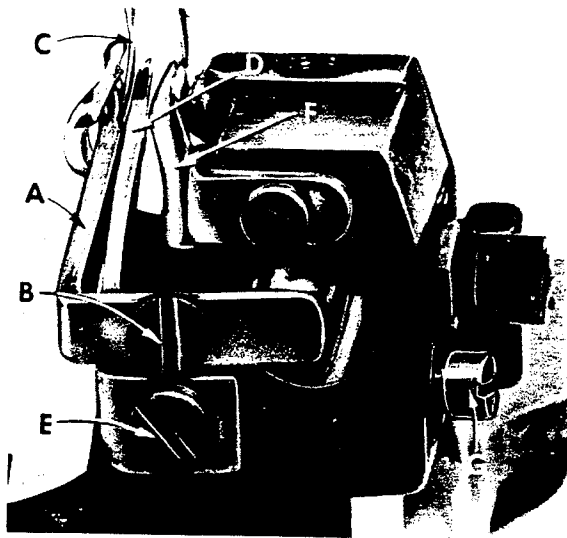

Fig. 5
Set the rear needle guard (A, Fig. 5) as high as possible without interfering with either the lower spreader or movement of the lower knife holder, but still in position to deflect the needle forward .002 to .004 inch. Screw (B) is used to set rear needle guard. Make sure there is no interference between rear needle guard and lower spreader.
Now complete the lower spreader adjustment. As lower spreader moves to the right its point should be set into the needle scarf (C, Fig. 5) until the needle springs forward from the rear needle guard surface another .002 to .004 inch. This setting
Assemble front needle guard (D, Fig. 5). When lower spreader is springing needle off rear guard, set the front needle guard as close as possible to the needle without touching. Screw (E) is used to adjust and set the front needle guard. After making this setting, assure there is no interference between needle guards and differential feed dog.
Insert rear needle guard into the hole in the throat plate support bracket. Set height of guard (F, Fig. 5) approximately $3/16$ inch below the throat plate seat. Bring the 401 needle down until its point is $1/64$ inch below the widest portion of the guarding surface. Then bring the guard forward to deflect the needle forward